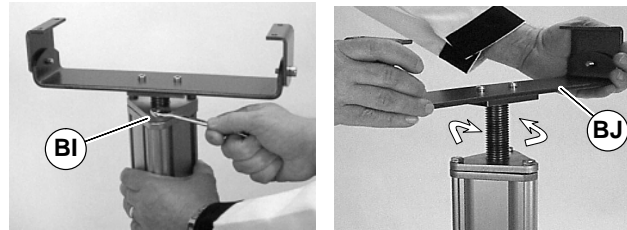

Figure 40
2. If installed, remove brace fastening hardware (BF) from the conveyor. Allow brace(s) to rest against the post of the stand.
3. Remove fastening hardware (BG) from the conveyor support (BH).
4. Raise conveyor off from conveyor support (BH) by adjusting temporary stand (BE) upward.
5. Loosen three post bolts (BI of Figure 40). Adjust conveyor support (BJ).